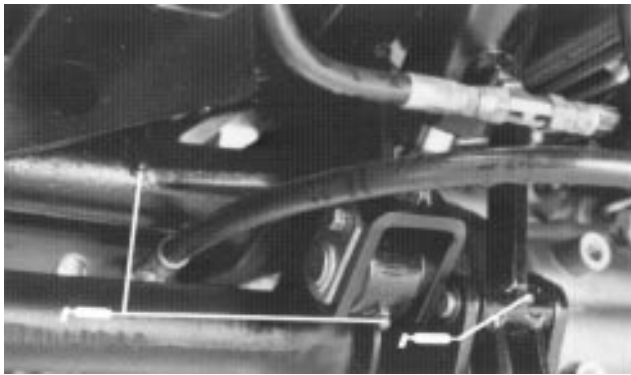
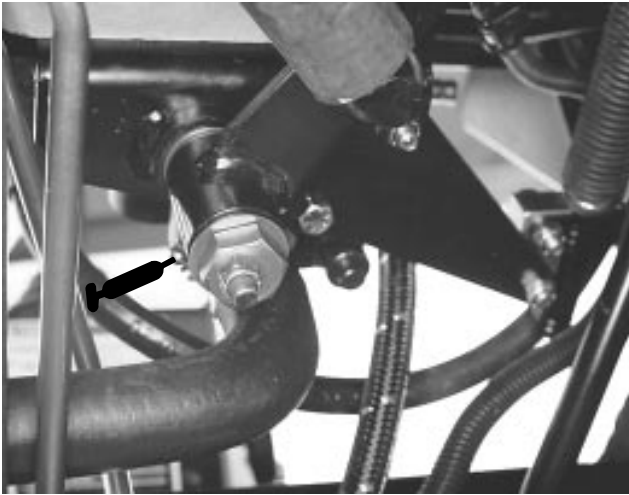
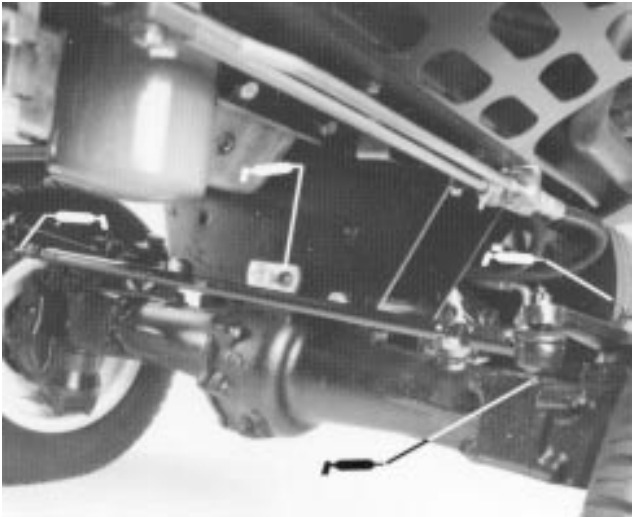

Figure 16
Figure 21
Figure 23
GREASING (Fig. 16–24)
1. The grease fittings that must be lubricated are: Lift arm pivot (2), lift cylinder (4), brake arm pivots (2) (Fig. 16); brake pivot (1), brake pivots (2) (Fig. 17); traction pedal pivot (1) (Fig. 18); engine to pump drive shaft (2) (Fig. 19 & 20); traction adjuster (1) (Fig. 21); P.T.O. Bearing (Fig. 22); tie rod assembly (2), center pivot (1), axle knuckles (2) (Fig. 23); cylinder ends (2) (Fig. 24).